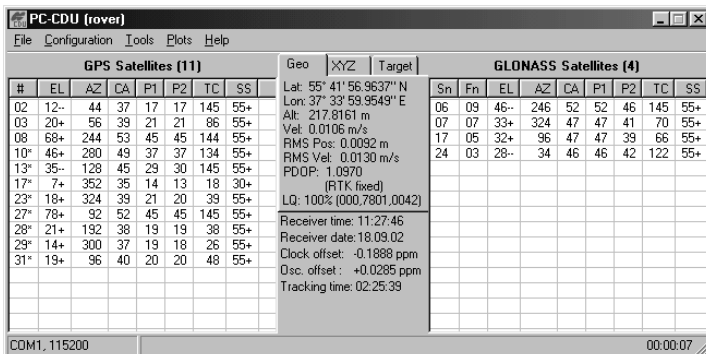

Figure 3-14. PC-CDU Main Screen
9. On the main screen (Figure 3-14), check the LQ field to ensure the receiver obtains differential corrections. Usually, the receiver will start to output the coordinates of the antenna’s phase center along with the solution type within 10–30 seconds.